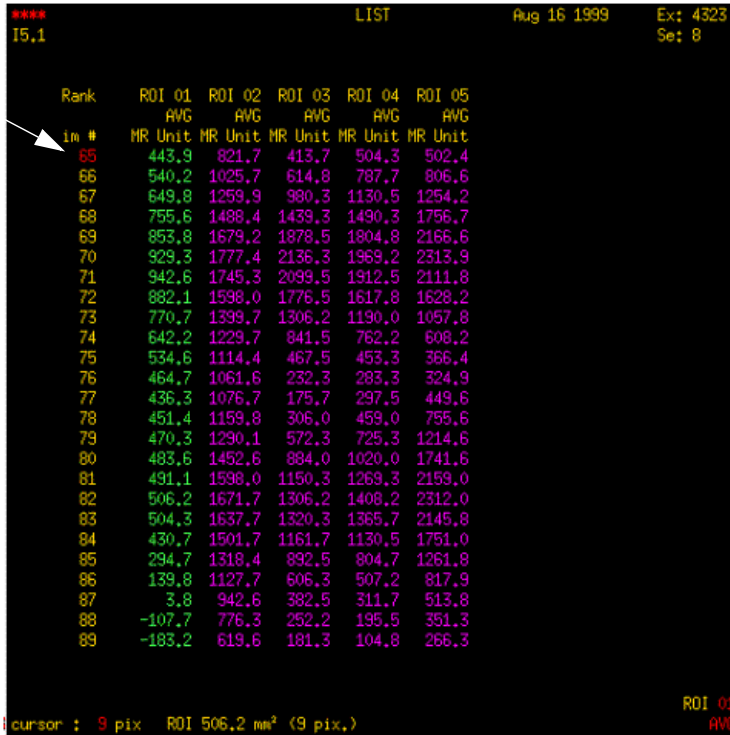

Figure 7: Spectral grid viewport with a list of signal intensities from five ROIs.
One to at least 250 spectra can be displayed in this viewport; the initial display is blank. Three display colors are used for the spectra; green for the spectrum from the “active” ROI, purple for spectra from any other ROIs, and white for the spectrum corresponding to the cursor location when the cursor is used to select a spatial region on one of the image display viewports. The signal intensity for each of the 256 points in a spectrum can be listed for the spectra from 1- 8 ROIs (Figure 7). This list is accessed with a right-click in the spectral grid viewport and drag to select **List values**. You can click on the image number located at the top of the list (indicated by the red or bright white text) to scroll through the list. Left-click to increase and right-click to decrease the image number. (For example, the “Rank im #,” number 65 in Figure 7.)
- ⇒ **List Values** or **Spectrum**: Toggles between the spectrum display, and the display of a scrollable list of signal intensities (Figure 7) for each point in the spectrum.